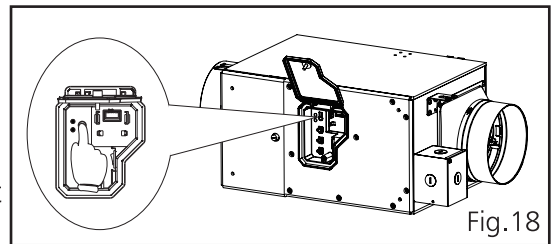

Fig.18
5. Turn ON the main switch and press the filter reset button. The filter indicator light and the buzzing sound will turn off. Close the control box cover and turn the hand screw clockwise. (Fig.18)